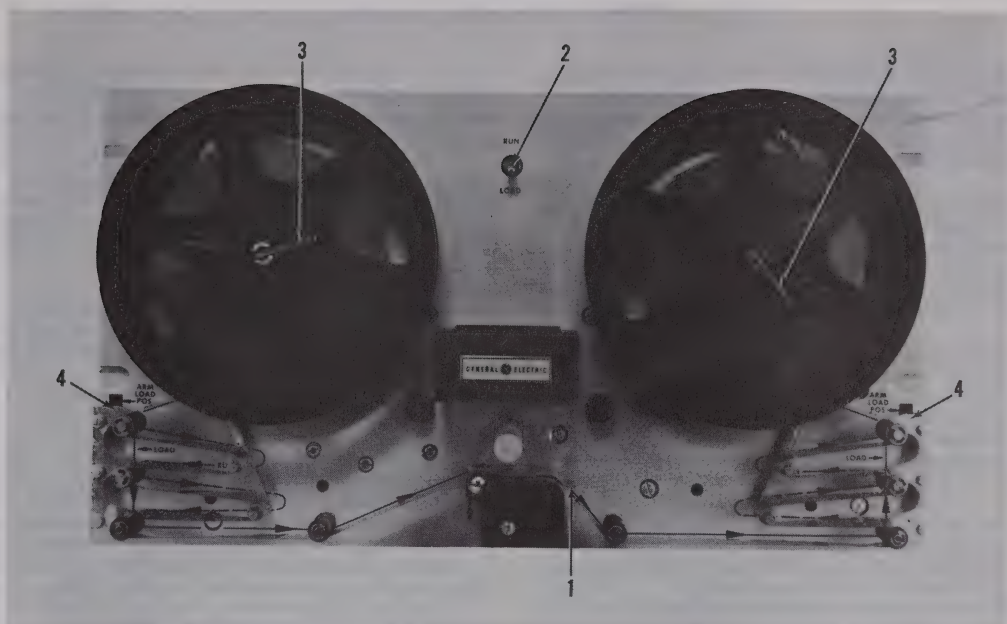

Figure 5.2.
The four Operator's devices on the Reader/Reeler are shown in Figure 5.2. and are listed below.
2. Lift the upper tape guide (part 1, Figure 5.2.).
1. With power on, put the Run/Load switch (part 2, Figure 5.2.) in the LOAD position. Put the tension arms in the arm load clips (part 4, Figure 5.2.).
3. Place an empty reel on the right-hand reel hub, and close the latch (part 3, Figure 5.2.).